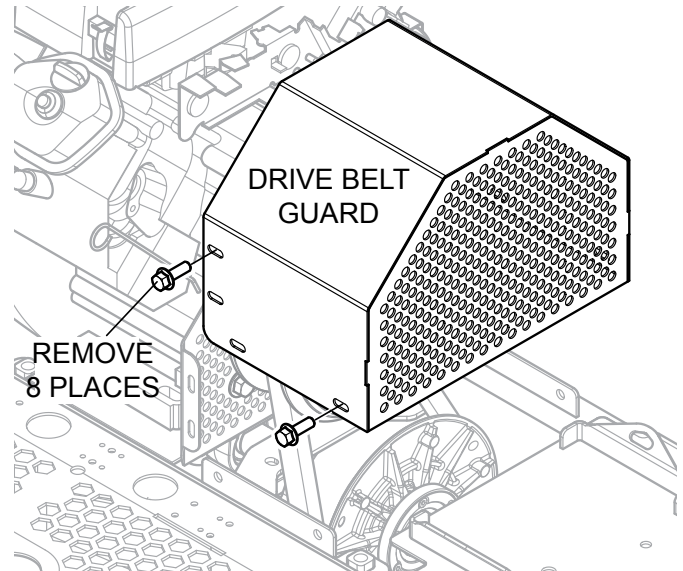

Figure 16. Drive Belt Gurad Removal
To gain access to the drive belt, remove the drive belt guard cover (Figure 16), then visually inspect the drive belt for signs of damage or excessive wear. If the drive belt is worn or damaged, replace the drive belt.
1. To gain access to the drive belt, remove Drive Belt Guard (Figure 16).